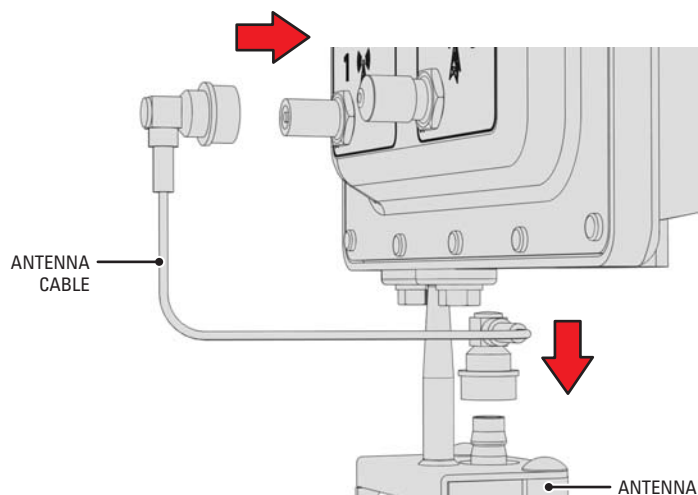

Figure 11. Connecting the Antenna Cable
- c. Connect the antenna cable to the integrated antenna and the EW5002 (refer to Figure 11).